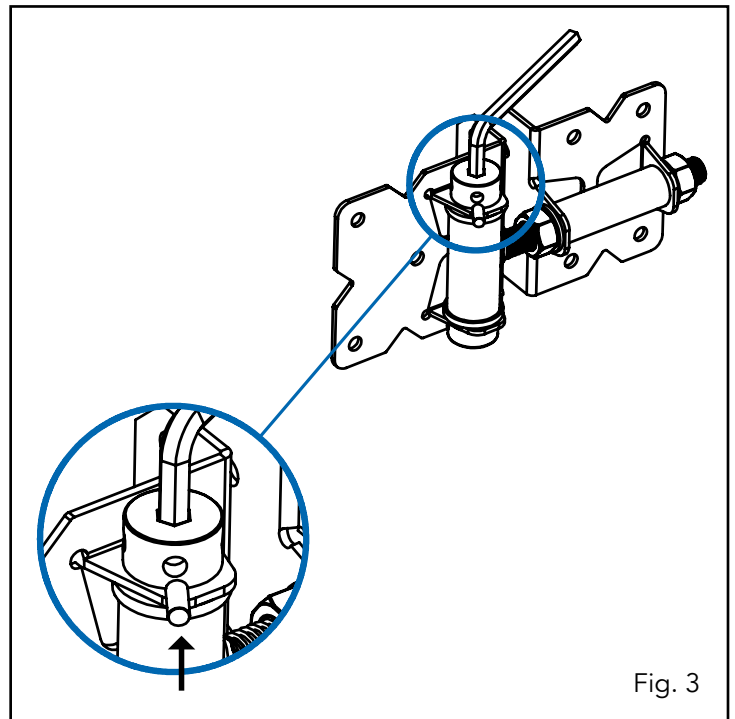

Fig. 3
3. Insert adjustment pin into hole in adjustment cam. (Fig. 3)